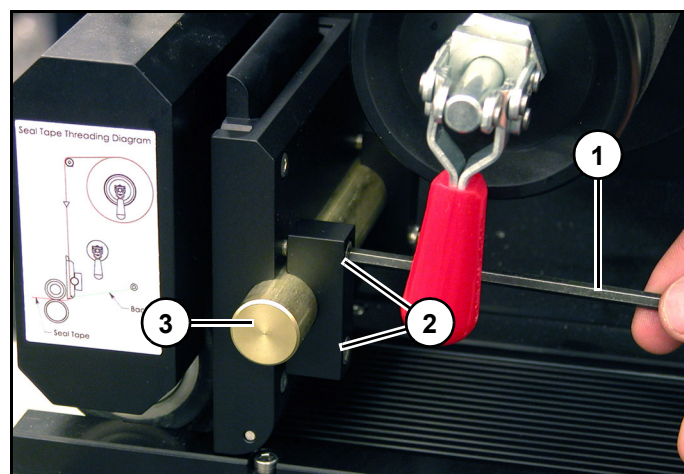

Figure 14
1. Using an M4 hex wrench (1), loosen four bolts (2) to loosen two clamps on seal guide (3). (*Figure 14*)